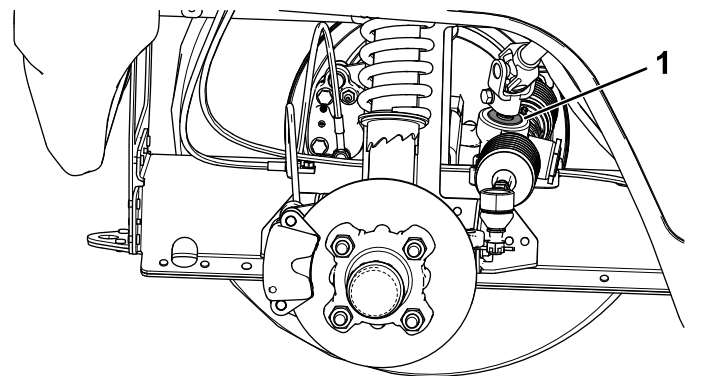

Figure 56
- Important:** Inspect the condition and security of the pinion-shaft seal (Figure 56).